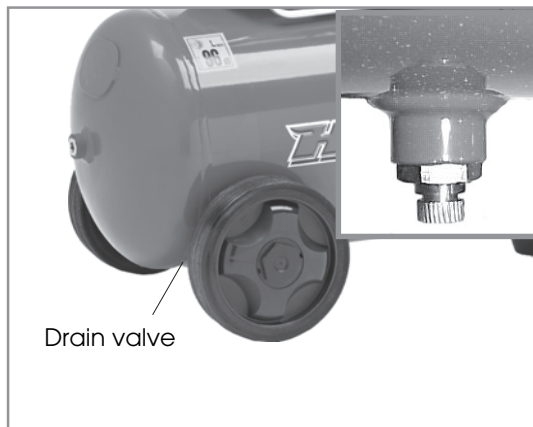

Figure 9
- 2 Carefully undo the drain valve anticlockwise until you hear a hissing noise, this is the reservoir depressurising. See figure 9.